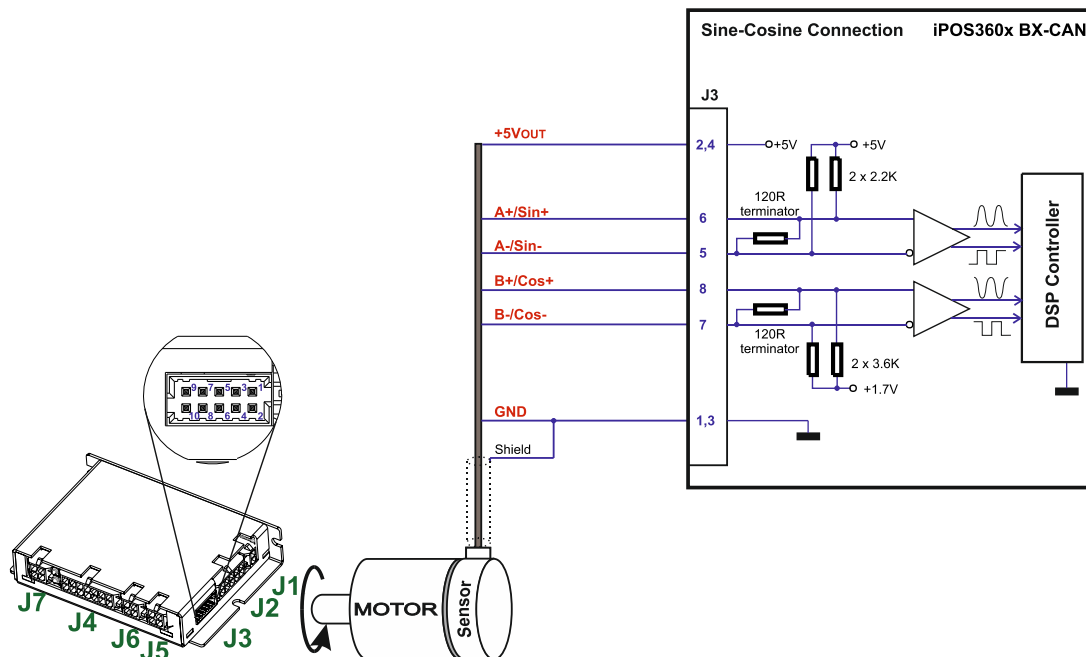

Figure 3.23. Sine-Cosine analog encoder connection
- connecting all digital Hall inputs to GND, as shown in **Figure 3.23**. This option is particularly useful when you are unable to establish communication with the drive.